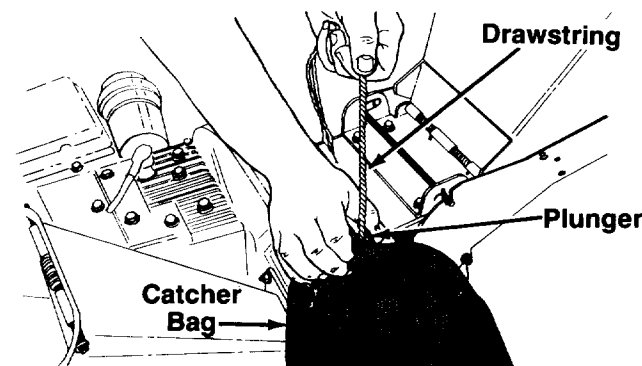

FIGURE 5.
- To attach the bag, place the opening of the bag over the chute deflector so it completely covers the chute opening. Depress the plunger on the drawstring, pull on the drawstring until the bag is tight around the chute opening. Release plunger to lock it into position. See figure 5.